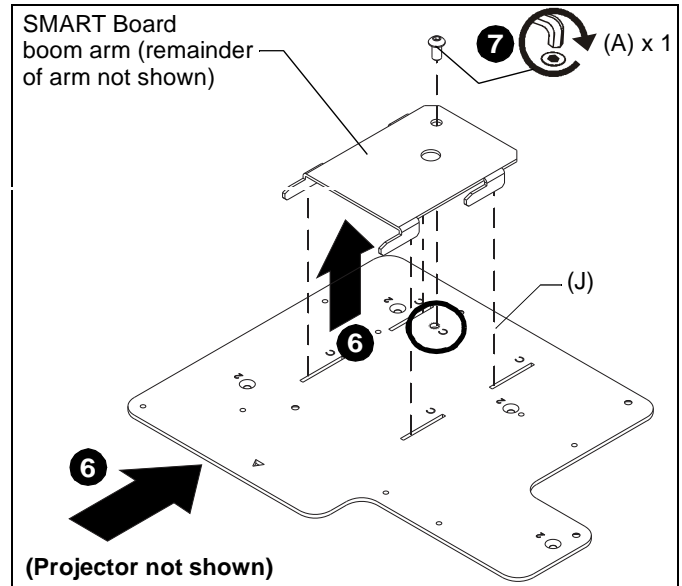

Figure 2
6. Lift interface bracket (J) with Epson projector up to end of the existing SMART Board boom arm, and slide interface bracket slots (marked as "C") onto hooks. (See Figure 2)
7. Fasten interface bracket (J) to end of SMART Board boom arm through hole marked as "C" using one 1/4-20 x 1/2" button head cap screw (A). (See Figure 2)